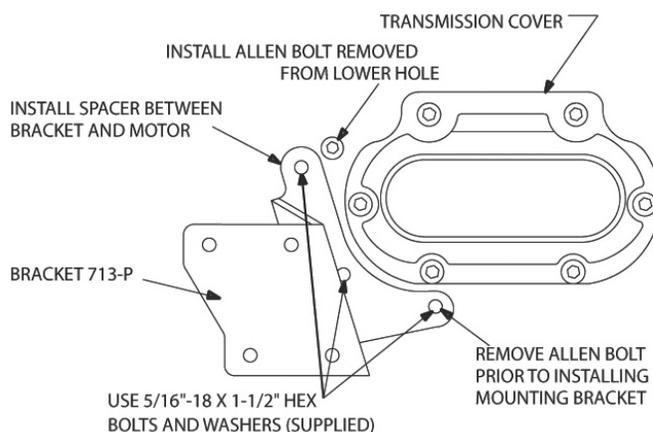

Figure 1
9. Remove left-hand bolt below the transmission cover. Position mounting bracket 713-P over mounting location to determine which bolts to remove (Figure 1). Install this bolt in the top hole left vacant by the new bracket.
1. Attach mounting bracket 713-P (supplied) to transmission using three $\frac{5}{16}$ " x $1\frac{1}{2}$ " hex bolts and $\frac{5}{16}$ " flat washer combinations (supplied) (Figure 1).